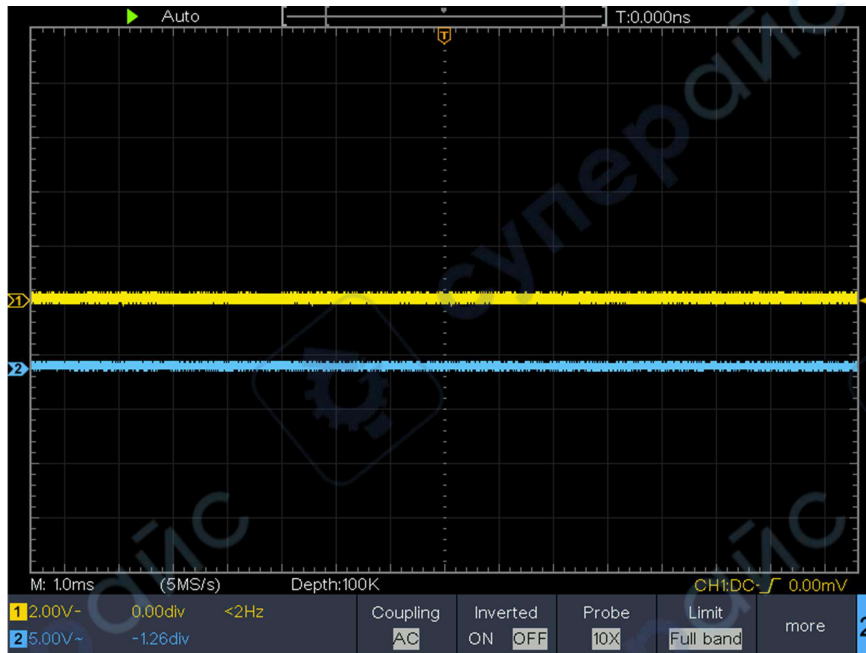

Figure 6- 2 Waveform of Gain Measurement
- (1) Push the **Autoset** button and the oscilloscope will automatically adjust the waveforms of the two channels into the proper display state.
- (2) Push the **Measure** button to show the Measure menu.
- (3) Select **Add** in the bottom menu.
- (4) In the right menu, select **CH1** in the **Source** menu item.
- (5) In the left Type menu, turn the **M** knob to select **PK-PK**.
- (6) In the right menu, select **Add**. The peak-to-peak type of CH1 is added.
- (7) In the right menu, select **CH2** in the **Source** menu item.
- (8) In the left Type menu, turn the **M** knob to select **PK-PK**.
- (9) In the right menu, select **Add**. The peak-to-peak type of CH2 is added.
- (10) Read the peak-to-peak voltages of Channel 1 and Channel 2 from the bottom left of the screen (see *Figure 6- 2*).
- (11) Calculate the amplifier gain with the following formulas.